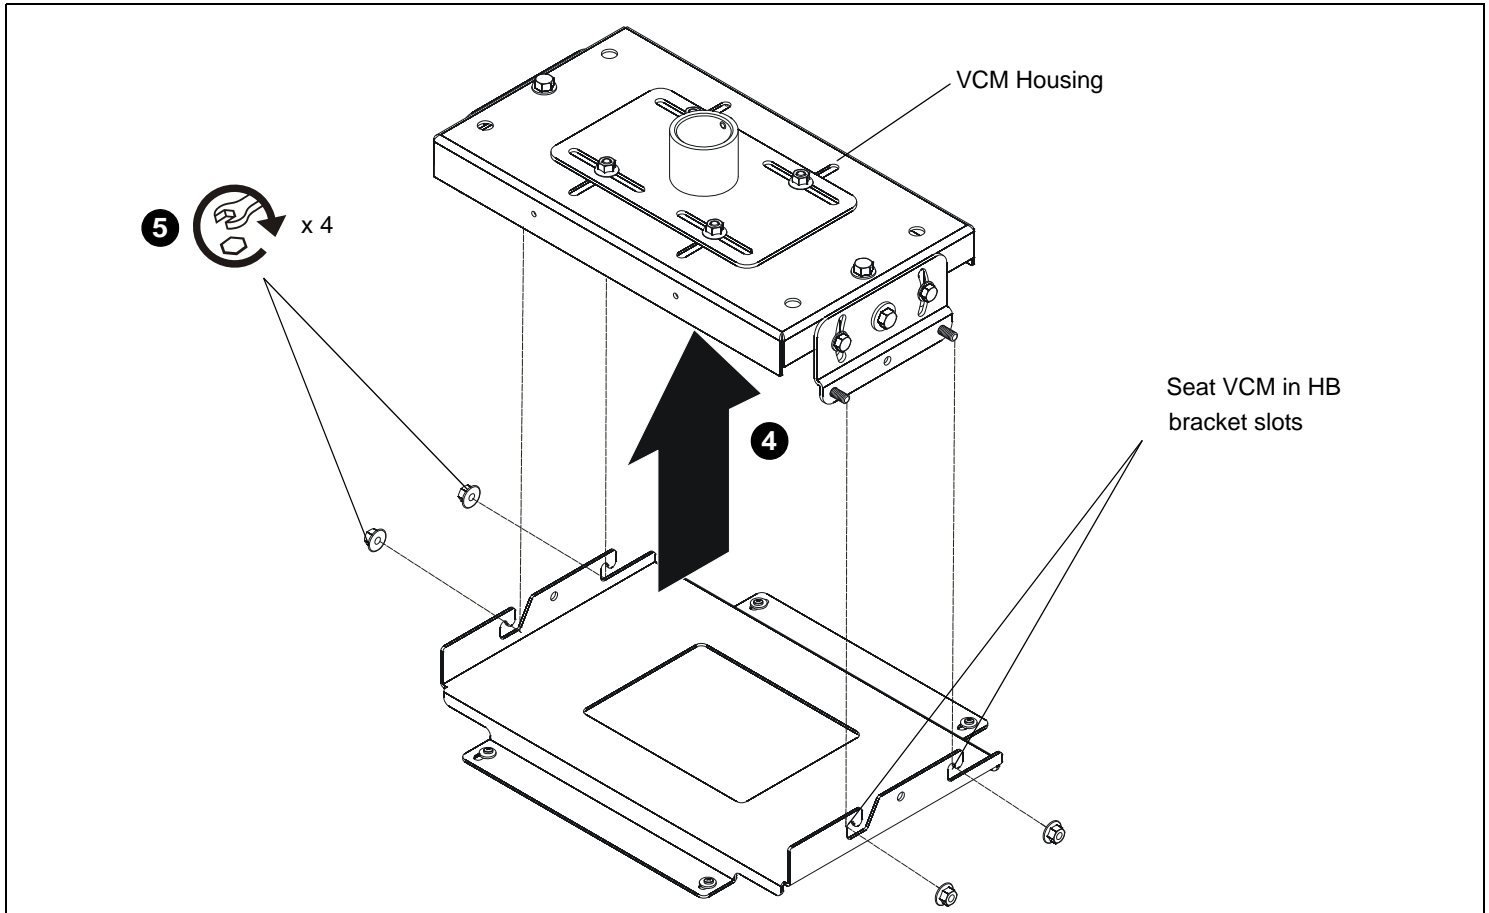

Figure 2:
4. With help of assistants, lift the projector and install it to the four studs extending from the VCM housing. Ensure that the VCM housing is seated in slots on HB bracket. (See Figure 2)
5. Tighten the four 5/16" flange nuts. (See Figure 2)